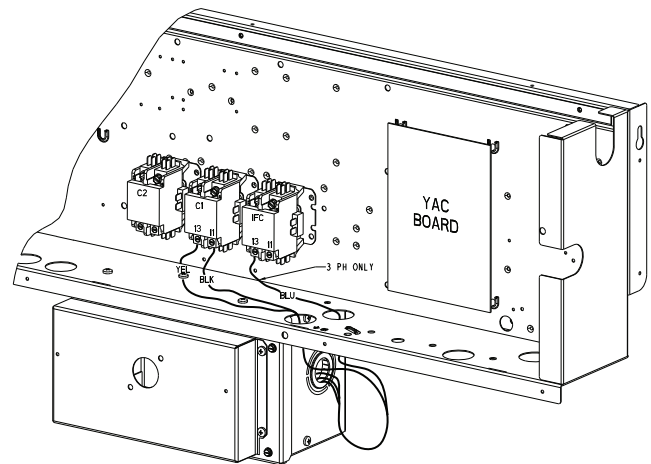

Fig. 33 — NFD Enclosure Location
2. Remove (3) hex screws on the NFD enclosure — (2) on the face of the cover and (1) on the left side cover. See Fig. 33.